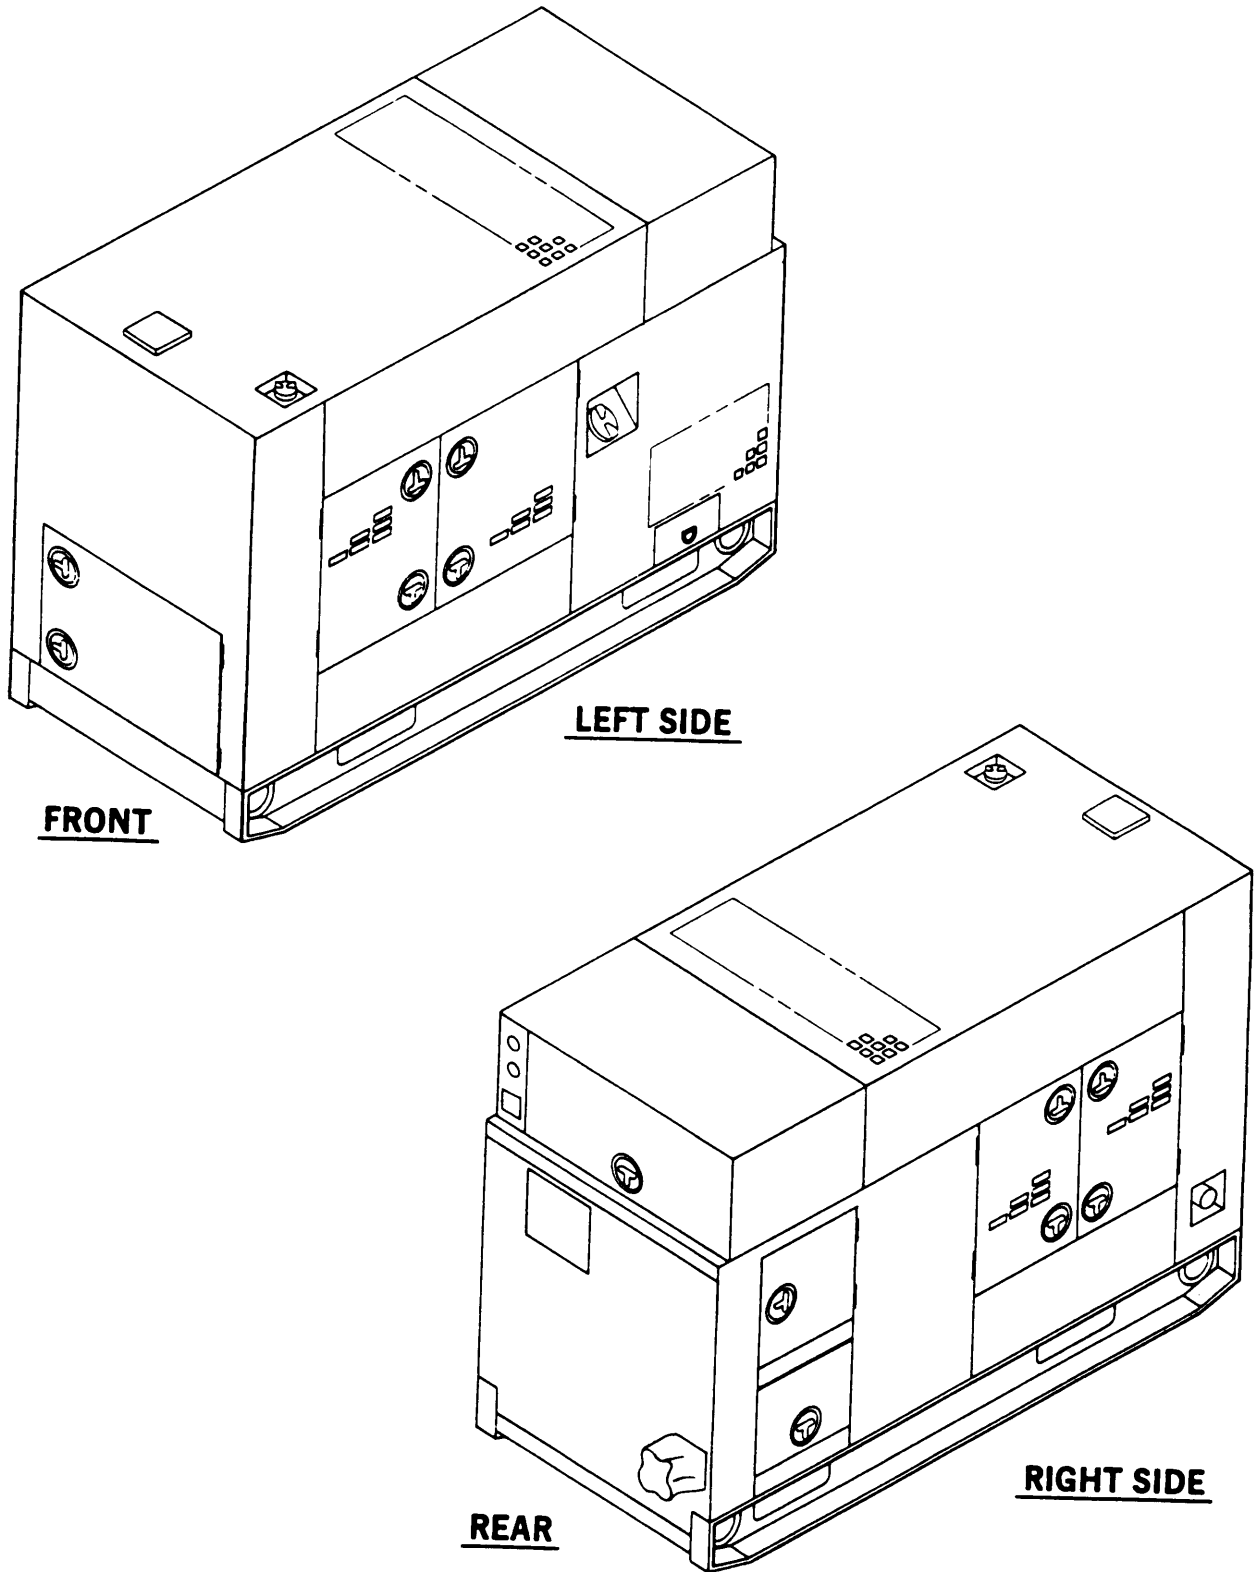

FIGURE 1-1. Generator Set, 60 kW, Tactical Quiet
1-1.1 Type of Manual. This manual contains operation and operator maintenance instructions for the Tactical Quiet (TQ), 60 kW 50/60 and 400 Hz Generator Sets (FIGURE 1-1), herein referred to as generator set. Included are descriptions of major components and their functions in relation to other components.